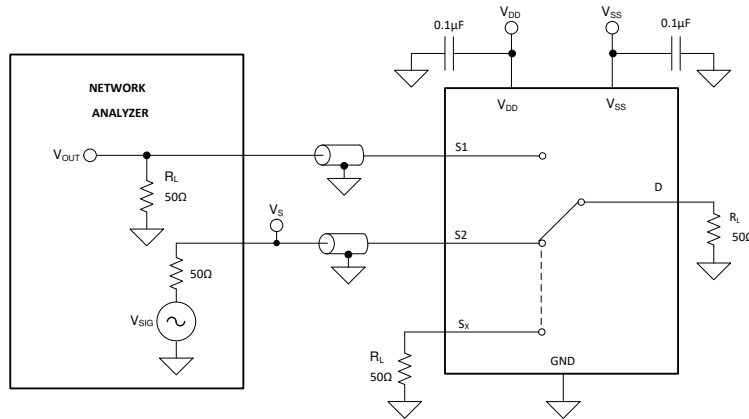

Figure 7-9. Crosstalk Measurement Setup
Crosstalk is defined as the ratio of the signal at the drain pin (D) of a different channel, when a signal is applied at the source pin (S_x) of an on-channel. Figure 7-9 shows the setup used to measure, and the equation used to compute crosstalk.